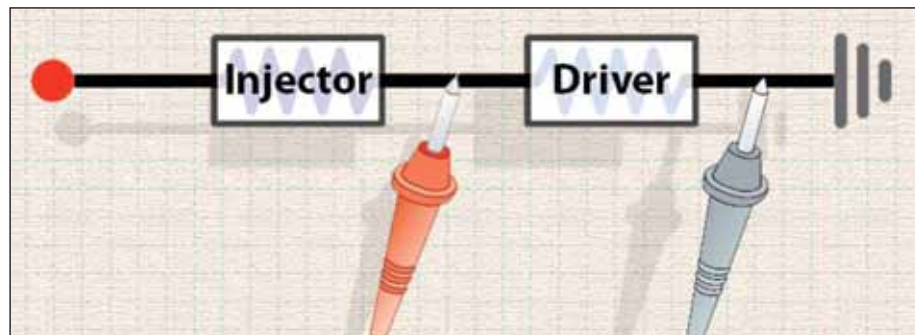

Fig. 8
2. Ask yourself, *What is between my test points?* See Fig. 8 on page 40. It's the driver, and the injector is between the signal test point and the power source.
Let's reference the Ohm's Law II grid and play out the scenarios in Fig. 8.